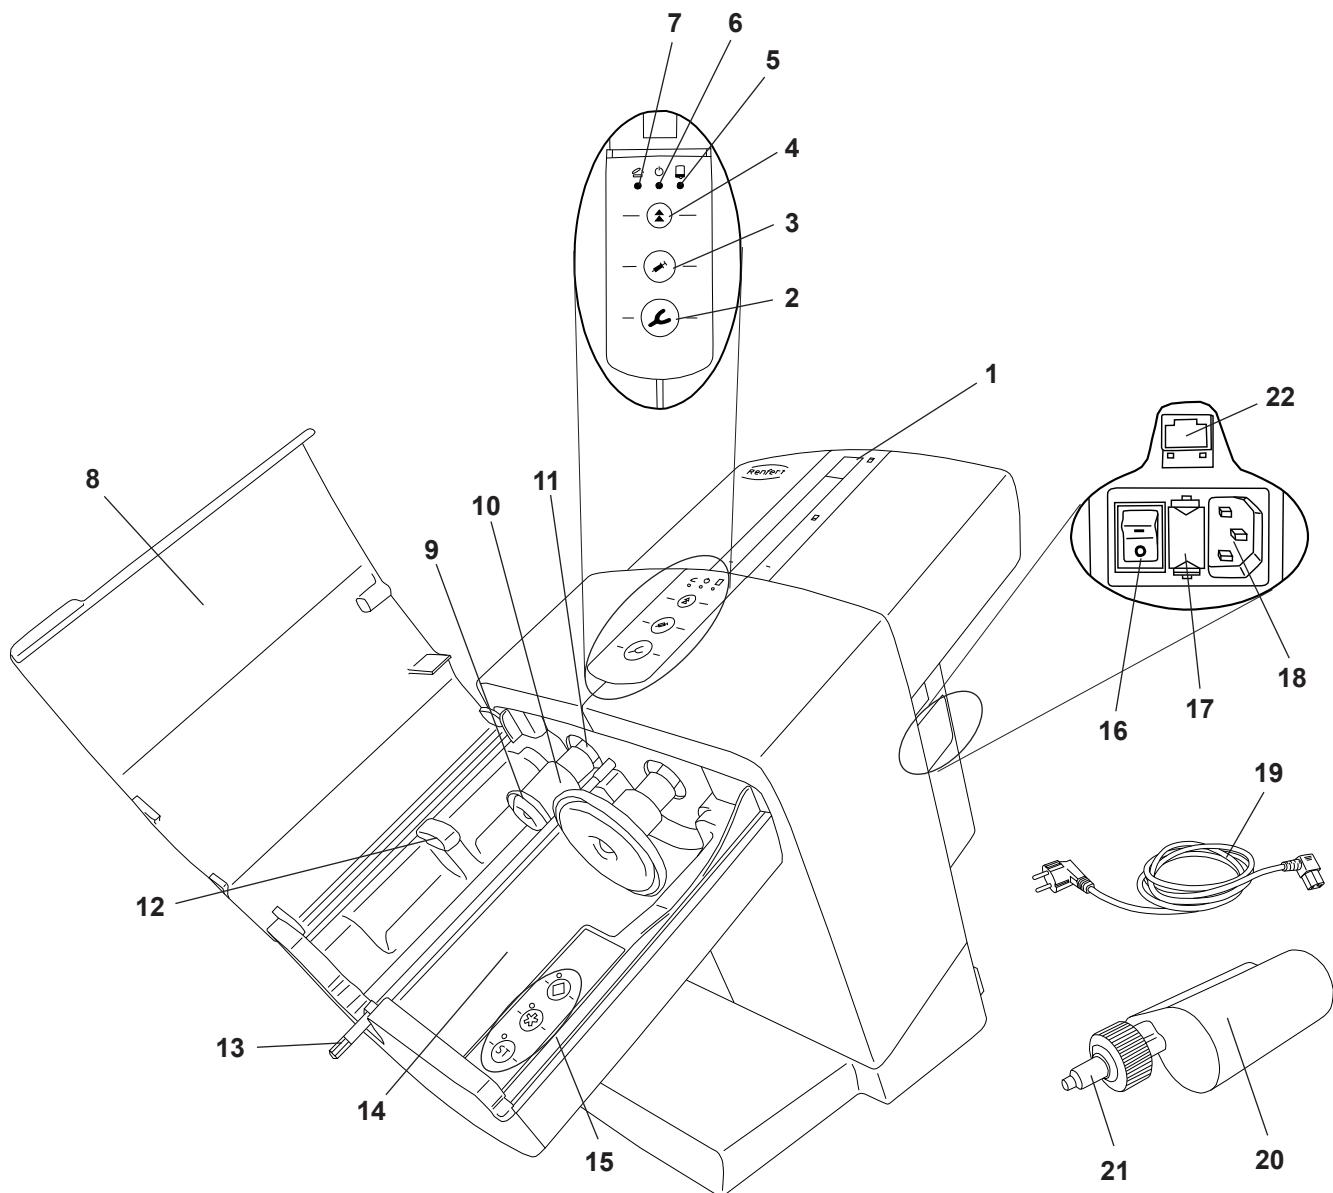

Fig. 1
- ⇒ Connect the provided power cord (19, Fig. 1) to the mains connection socket (18).
- ⇒ Switch the unit on at the mains power switch (16).
- ⇒ Close the unit cover (8, Fig. 1).
- ⇒ Press the retract key (4).
- ♦ The pressure discs (9, Fig. 1) retract to their home position where they stop.
- ⇒ Remove the shipping restraint (23).
A cartridge can only be installed or replaced if both pressure discs (9, Fig. 1) are in their home position.
⇒ Close the unit cover (8, Fig. 1).
⇒ Open the unit cover (8, Fig. 1).
The cover will only close if the cartridge has been properly installed. The red “Unit cover open” LED (7, Fig. 1) will remain on until the unit cover has been properly closed.
- Dispenser (3), slow extrusion speed
- ◆ The mixing hexagon (13, Fig. 1) starts to turn and threads its way automatically into the mixing nozzle (21, Fig. 1) and then stops again.